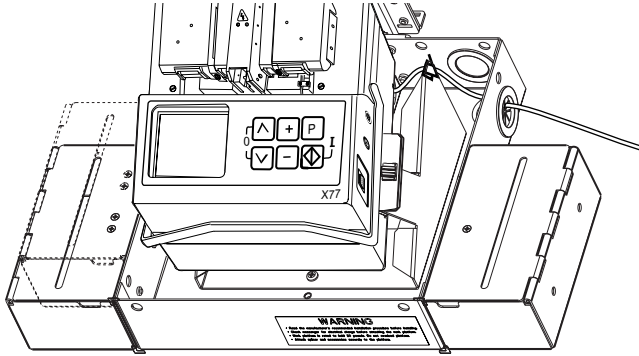

Figure 21
6.6 Cables or wires from the splicer may be routed through the rear or side grommets (see Figure 21).
6.7 The tool compartments may be attached to the platform in two different positions, or removed from the platform for a lighter or more compact unit (Figure 21)